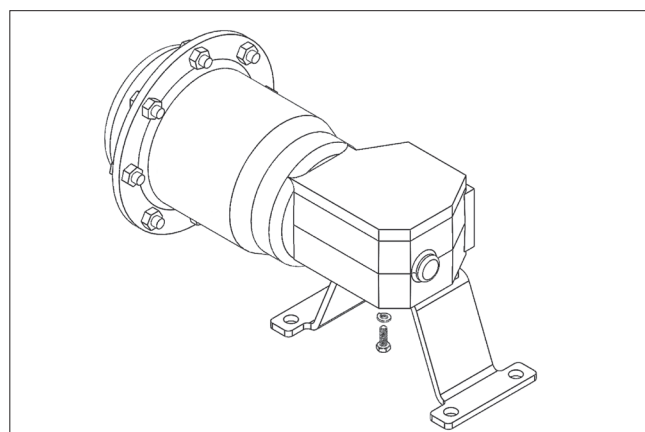

Figure 11.
2. Assemble bracket to actuator as shown in (**Figure 11**). Tighten to torque listed in (**Table 3**).